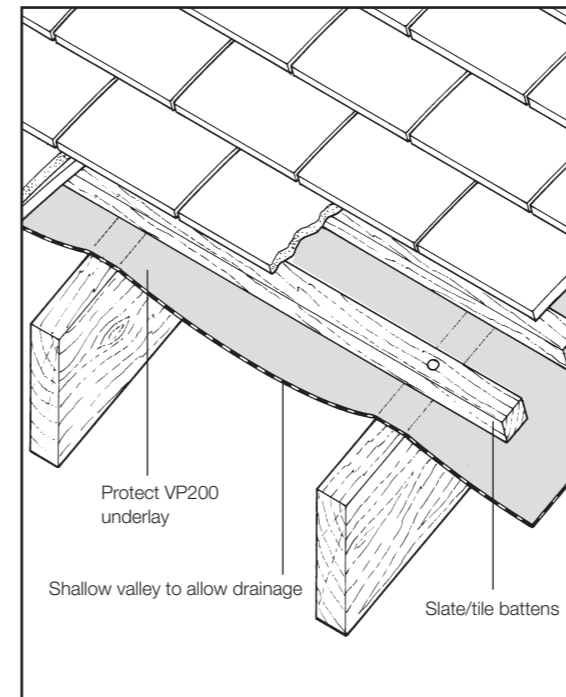
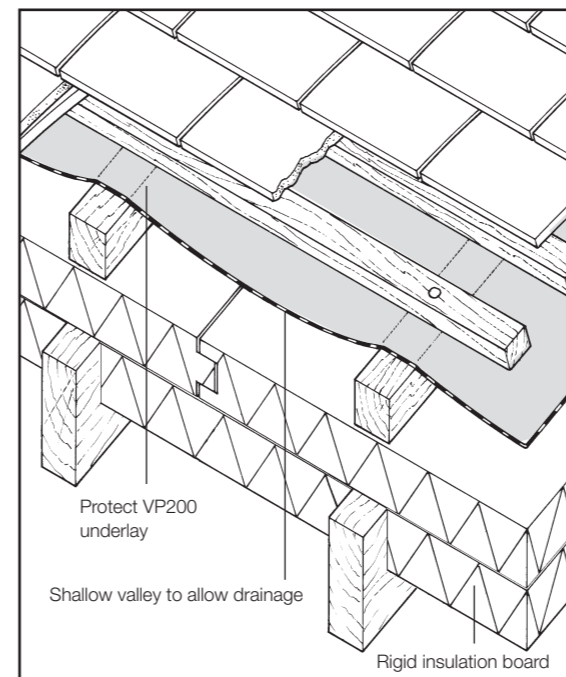
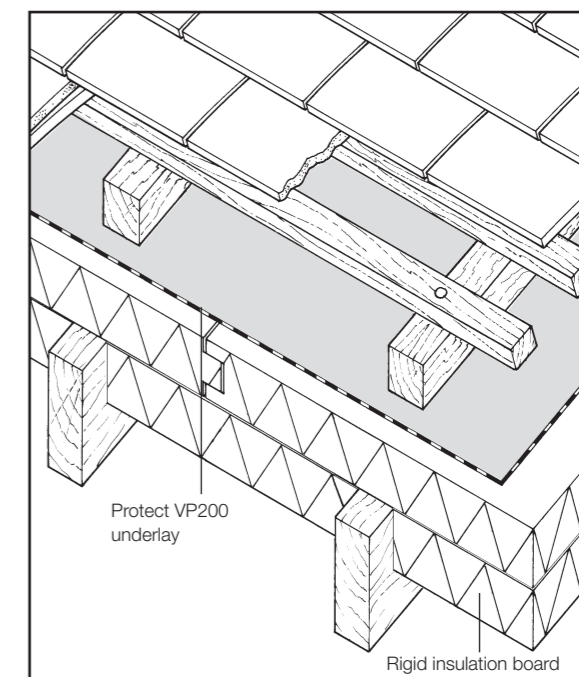

Fig 1
Fig 3
Fig 4
- Protect VP200, a vapour permeable underlay, may be used for cold roofs with ventilated or unventilated loft spaces (see Figs 1 and 2) or warm roofs with insulation between and or above rafters (see Figs 3 and 4).
If the ceiling is well sealed, as defined in BS 5250, condensation can be controlled by the use of Protect VP200 with no additional ventilation. Protect VP200 can be laid draped unsupported (see Fig 3) or fully supported on insulation (see Fig 4). To ensure the integrity of a well sealed ceiling, a separate vapour control layer such as Protect VC Foil Ultra must also be used on the warm side of the insulation. If there is any doubt about the ability to provide and maintain an effectively sealed vapour control layer then ventilation should be provided beneath the underlay of 25,000mm2 per metre at eaves or low level and 5,000mm2 per metre at ridge or high level. This can be achieved with Glidevale Fascia/ Soffit vents at low level as well as Protect RediRoll / UniRoll & Glidevale Tile/Slate Ventilators at high level.